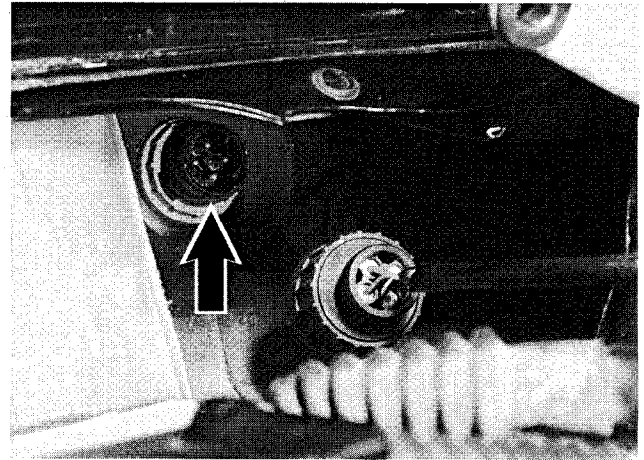

Fig. 18. Wiper assembly electrical plug (arrow).
12. Separate harness at bulkhead connector. See Fig. 18.